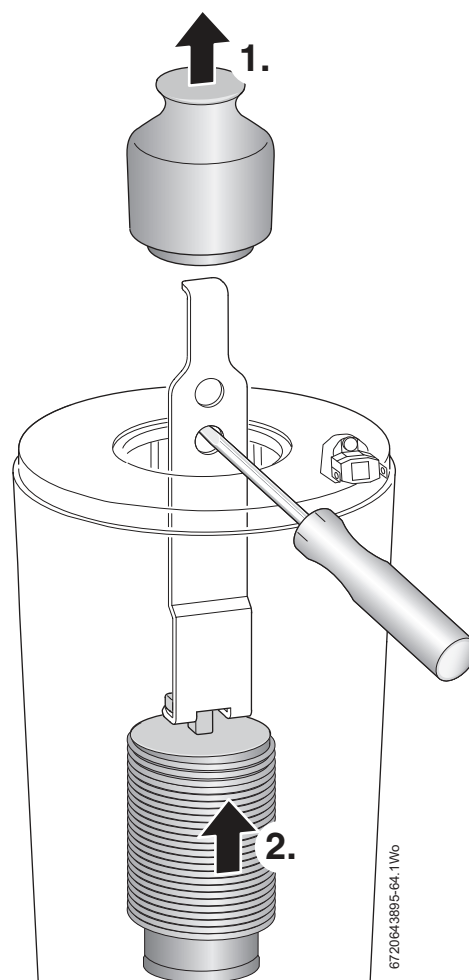

Fig. 88 Baffle removal
Refer to figure 88.
If the lower baffle is stuck, it may be necessary to use the "Baffle removal tool" from the heat exchanger cleaning kit - 7 716 192 312, as shown in figure 88.
The baffles (1) and (2) must be refitted into the heat exchanger in the order shown in figure 88. Failure to do so may result in damage to the boiler.